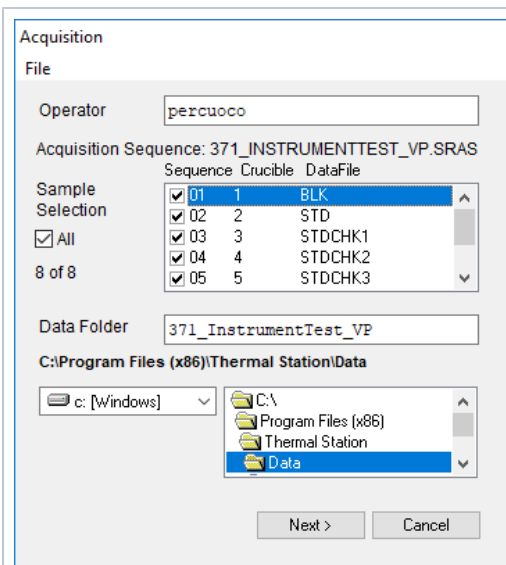

Figure 14. SRA > Acquisition.
1. Select **Main Menu > Acquisition** to open the Acquisition Setup screen (**Figure 14**).